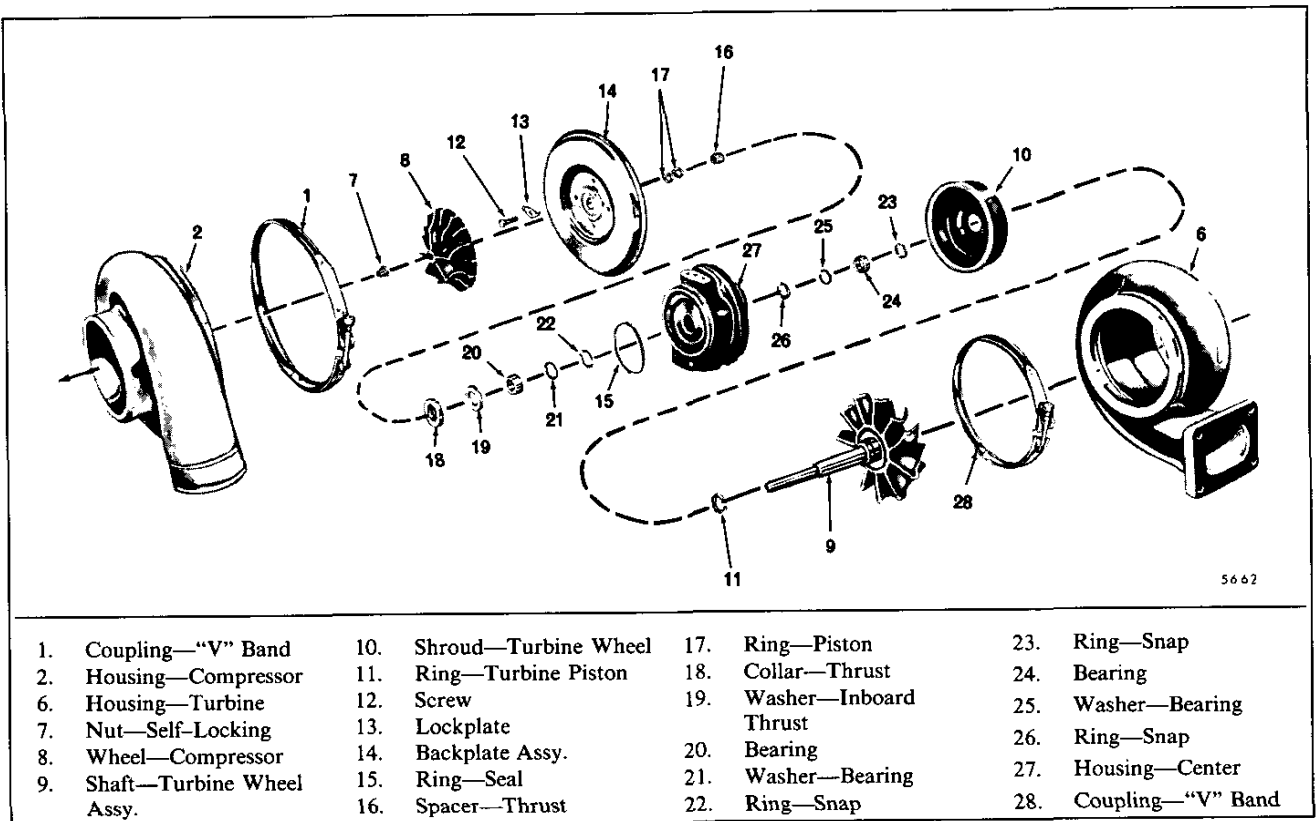

Fig. 16 – TV61 Turbocharger Details and Relative Location of Parts.
TV61 Turbocharger - Fig. 16.
- TV61 Turbocharger – Fig. 16.**